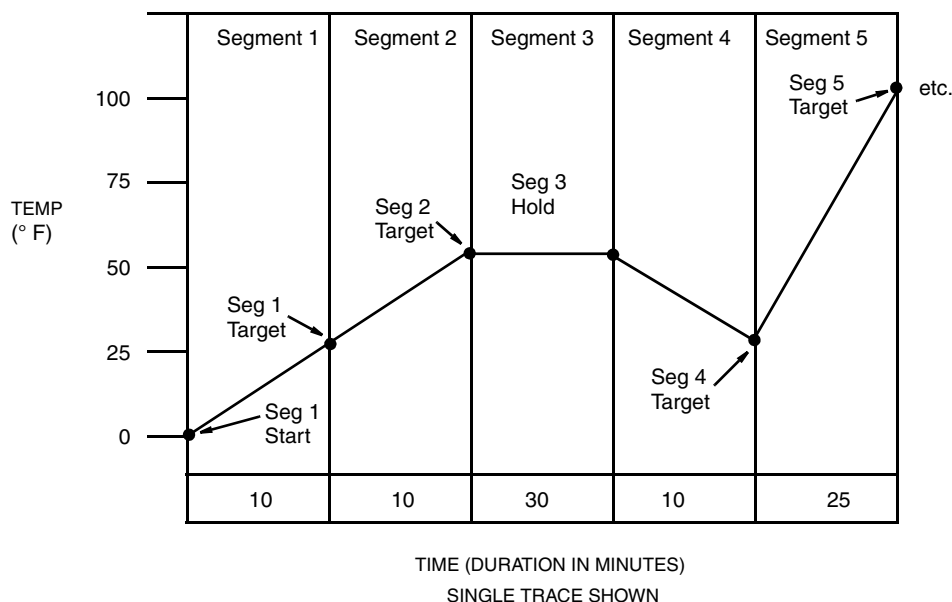

Figure 33. Time/Temperature Ramp
The purpose of a ramp generator (RG) is to force a preprogrammed chain of events using time versus selected values (see Figure 33, Time/Temperature used as an example). The 740 ramp generator option provides an electronic substitute for mechanical cam set instruments that performed the ramp function. This ramp generator furnishes two output traces (the equivalent of cam followers), one timer that is common to both traces, and eight on/off event states (the equivalent of cam tabs). Output of the trace is through the retransmission option. Output of the event states is through the relay option. The ramp generator may, however, be used without any physical output wiring, either as a remote setpoint or as an input to a calculated variable. Pen assignment, if desired, is done through the retransmission output plus wiring the retransmission output to the desired channel input or completed via CV to Channel 5 or 6.